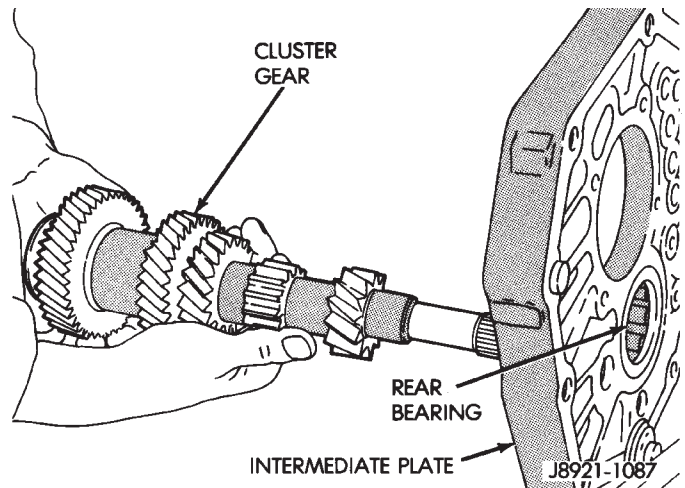

Fig. 57 Cluster Gear Removal
(5) Remove cluster gear by pulling it straight out of rear bearing (Fig. 57).